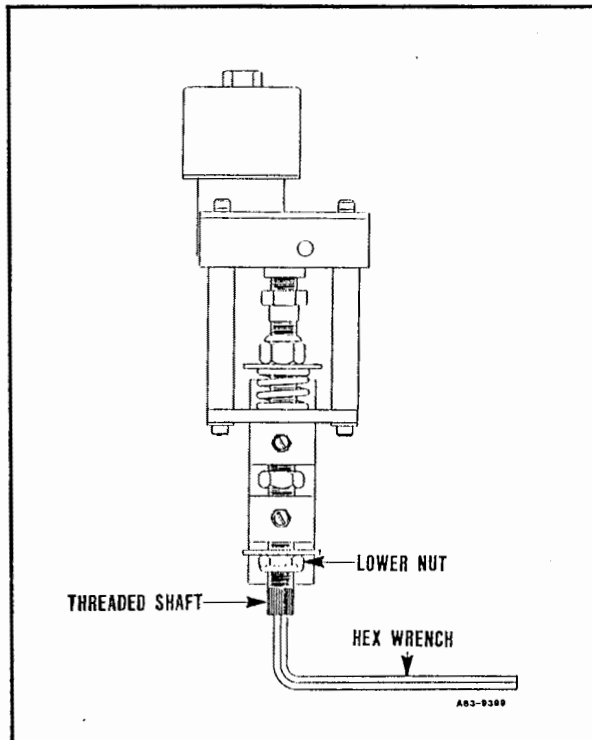

Figure 9.2 E
11. Using 3/4" open-end wrench, loosen lower nut a few turns while holding threaded shaft still with hex wrench. See Figure 9.2 E.